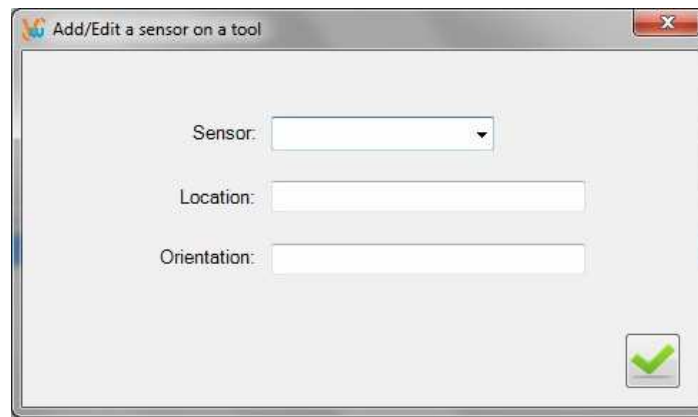

Figure 13: Adding a sensor to a tool
- Click on the  button to add a sensor. The add a sensor window is displayed (Figure 13)